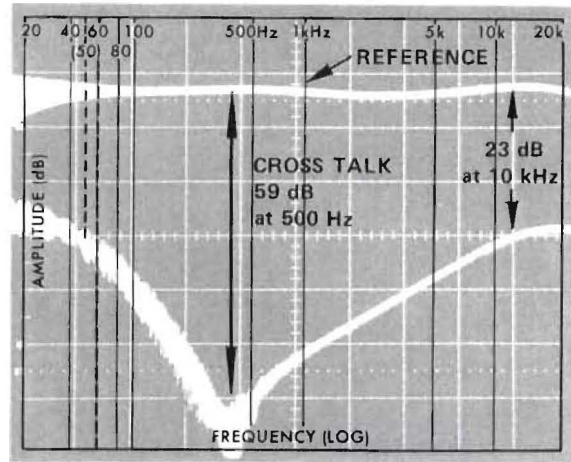

Figure 47 Crosstalk from One Channel to the Other
4. Switch the analyzer input to the other channel and, using the LOG SWEEP MODE and log graticule, observe the crosstalk signal level in dB with respect to the reference response. The drop in dB from the rated power reference established on the other channel can be measured by using the 10 dB/DIV display mode on the spectrum analyzer (Figure 47).